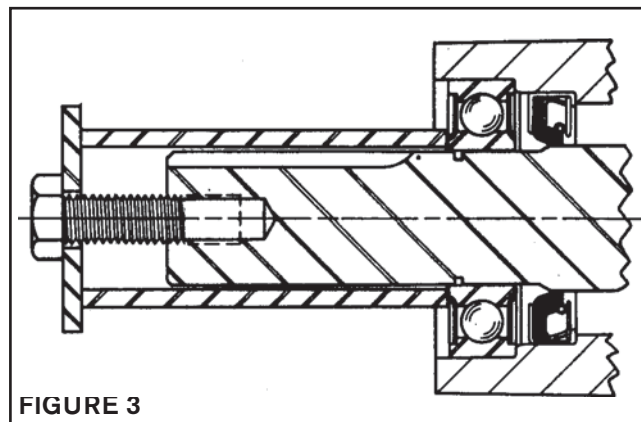

FIGURE 3
- d. With a sleeve that fits over the Input Shaft and against the bearing's inner race and protrudes beyond the end of the Input Shaft, draw the Input Shaft into the Bearing using the tapped hole in the end of the Input Shaft (See Figure 3).